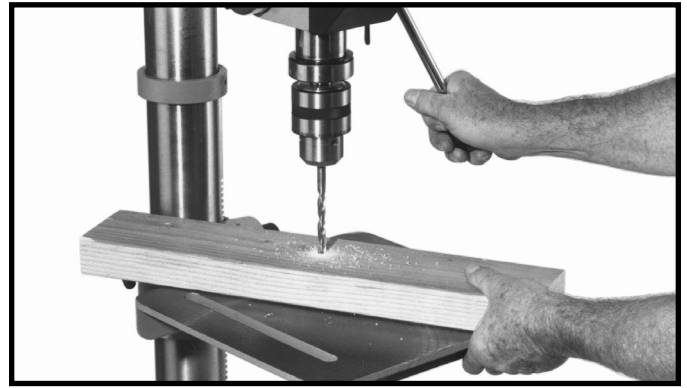

Fig. 32
**IMPORTANT:** When the workpiece is long enough it should always be positioned on the table with one end against the left side of the column, as shown in Fig. 32. This prevents the workpiece from rotating with the drill bit or cutting tool, causing damage to the workpiece or injury to the operator. If it is not possible to support the workpiece against the column, the workpiece should always be fastened to the table using clamps or a vise.